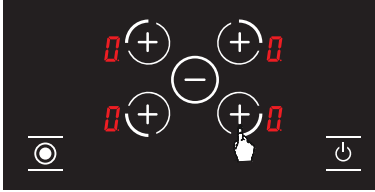

Figure 10
3. Then press the corresponding hotplate selection button **+** again. The label corresponding to the hotplate **1** will be displayed. (See Fig. 10.) This will activate the keep warm function.